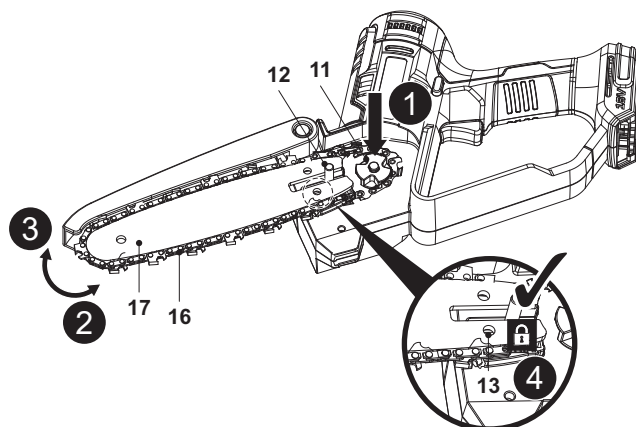

Fig. 4
**WARNING!** THE DIRECTION OF THE SAW CHAIN 'CUTTERS' MUST BE SAME AS INDICATED BY THE SYMBOL AND ARROW ON THE GUIDE BAR (17)!
6. Align the saw chain (16) and guide bar (17) assembly with the drive sprocket (11) and lay the saw chain (16) around the drive sprocket (11) (Fig. 4, step 1).
7. Swing the guide bar (17) downwards until the auto-tensioning pin (13) engages with the lower hole on the guide bar (17) (Fig. 4, step 2). You can also use a suitable flat-head screwdriver (not supplied) to assist in pushing the auto-tensioning pin (13) inward.
8. Swing the guide bar (17) upwards to stretch the saw chain (16) and make it parallel to the mounting bolt (12) (Fig. 4, step 3).
9. Make sure that the auto-tensioning pin (13) is correctly placed into the lower hole on the guide bar (17) (Fig. 4, step 4).